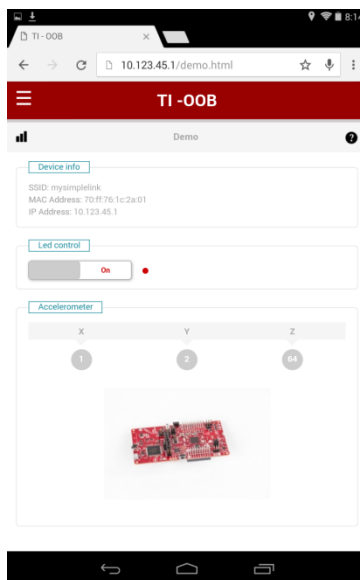

Figure 20. Demo Web Page
- Explicitly type demo.html as the requested resource on the browser URL, demo.html must be prefixed by the CC3220 IP address (see Figure 20).
Figure 20 shows device information, status of the onboard red LED (D7), and periodic accelerometer readings, together with the equivalent 2D image of the CC3220 LaunchPad board.